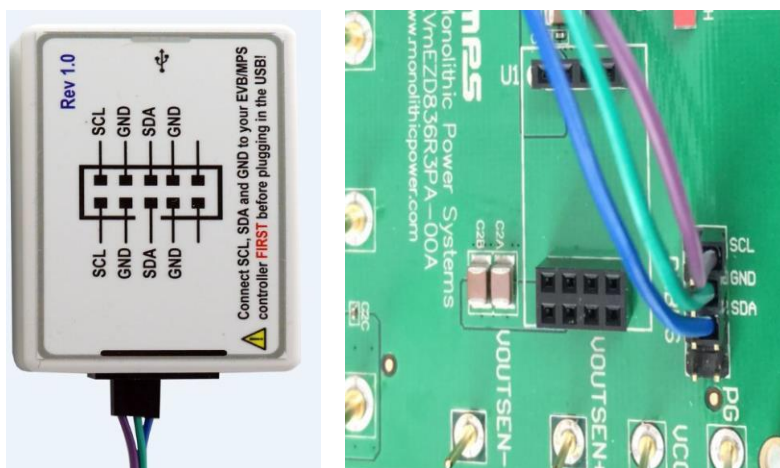

Figure 5: EVB to MPS I²C Communication Interface Device Wire Connection
2. Connect SCL, SDA, and GND (see Figure 5). If needed, refer to the datasheet for further clarification.